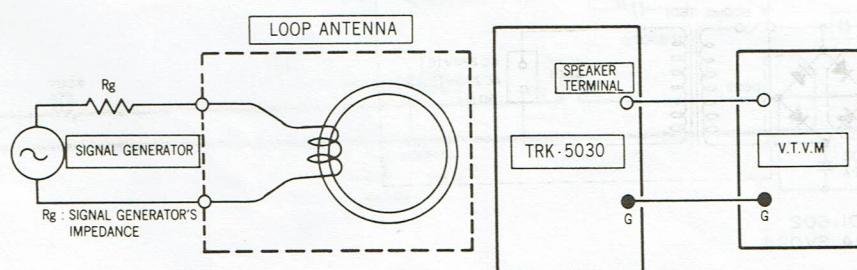

Fig. 11
| (1) | Except FM | AM-IF | Fig. 11 | Max. | High | 465kHz | High freq. end | T205, 202, 201 | Maximum output |
| (2) | MW | Covering | Fig. 11 | Max. | High | 360kHz | High freq. end | CT154 | |